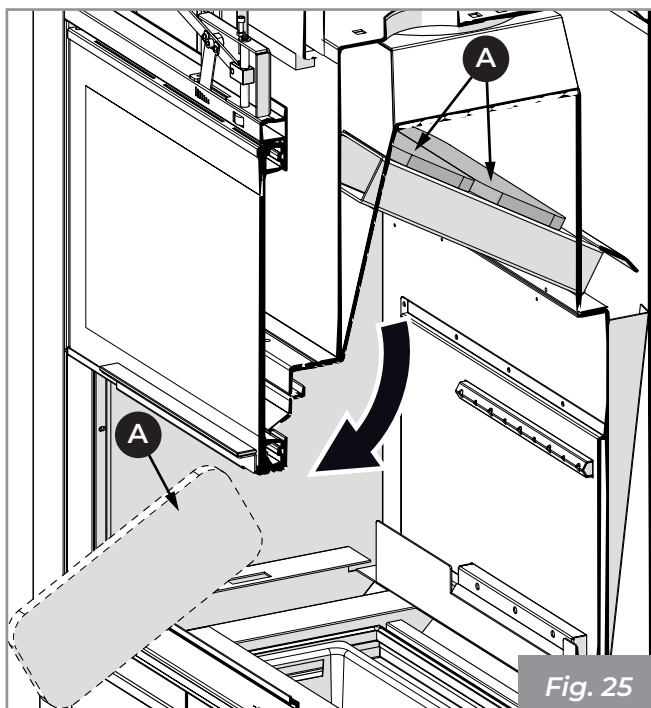

Fig. 25
1) Pull out the two upper deflectors(A) (Fig. 25).